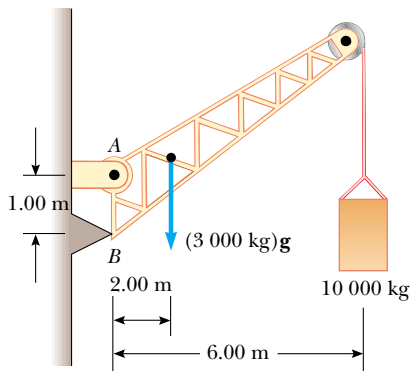

Figure P12.47
47. A crane of mass 3 000 kg supports a load of 10 000 kg as in Figure P12.47. The crane is pivoted with a frictionless pin at A and rests against a smooth support at B . Find the reaction forces at A and B .